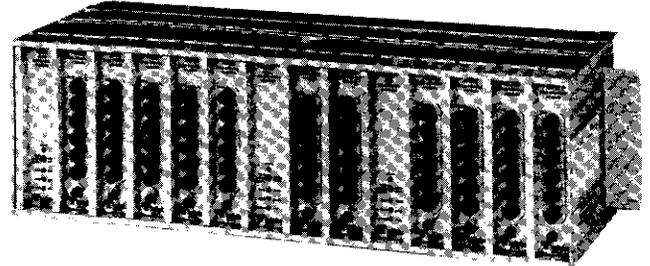

figure 1. 243 Low Speed Data Signaling System (typical configuration)
1.01 The 243 Low Speed Data Signaling System (figure 1) provides unidirectional transmission of loop-status signals at rates between 2 and 15 bits per second (bps). Designed primarily to interface with customer-premises alarm systems of the type generally known as McCulloh systems, the 243 System transmits coded alarm signals (generated by McCulloh-type alarm transmitters at a protected location in response, typically, to a fire or intrusion alarm) to an alarm company's central station over dedicated voice-frequency interoffice facilities.